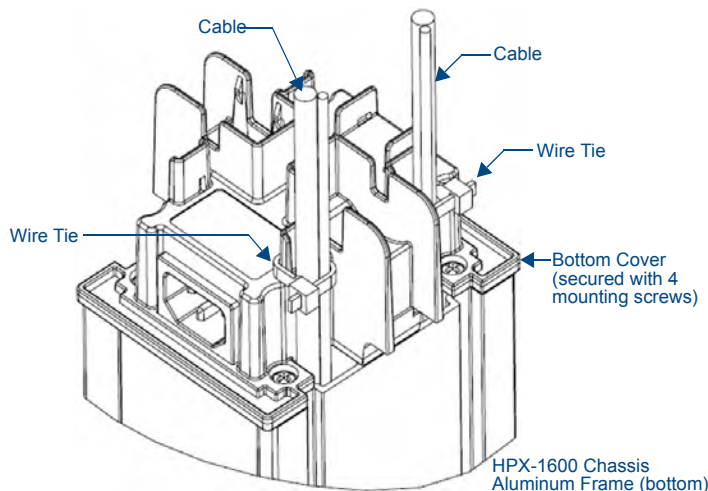

FIG. 8 Bottom Cover - Installed With Cables Exiting and Secured
2. After the bottom cover is secured using four screws, secure the cables to the corresponding tab near each opening using a small cable tie (FIG. 8).